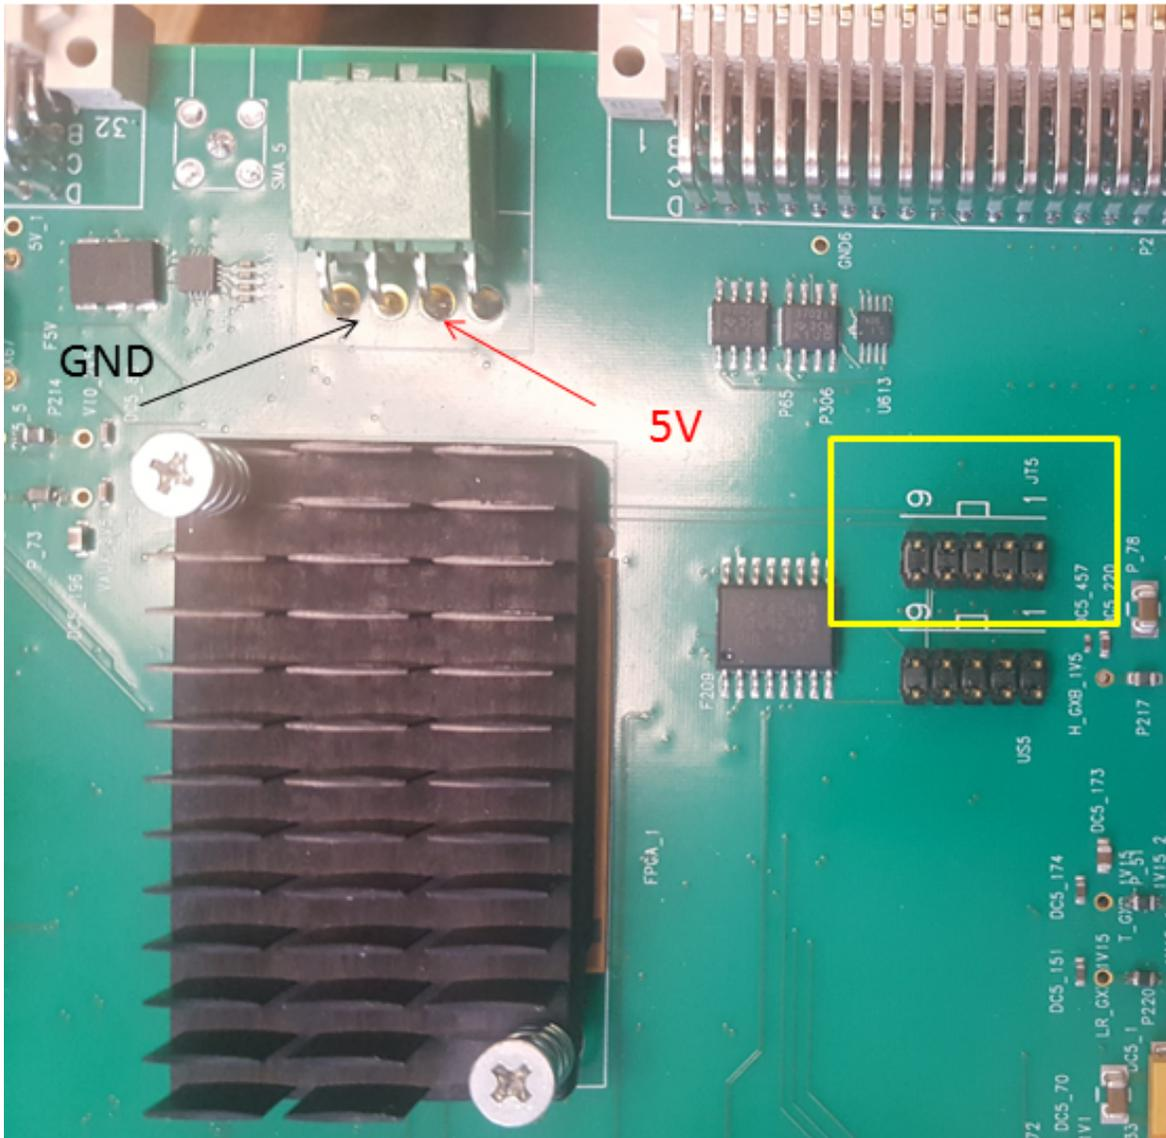

Figure 10: Location of the JTAG port used for flashing firmware onto the ACC, as well as the orientation of the power supply pins.
9. Connect the power supply to the ACC as shown in figure 10, and turn on the power.
2. Connect the JTAG to the pins in the square in figure 10.